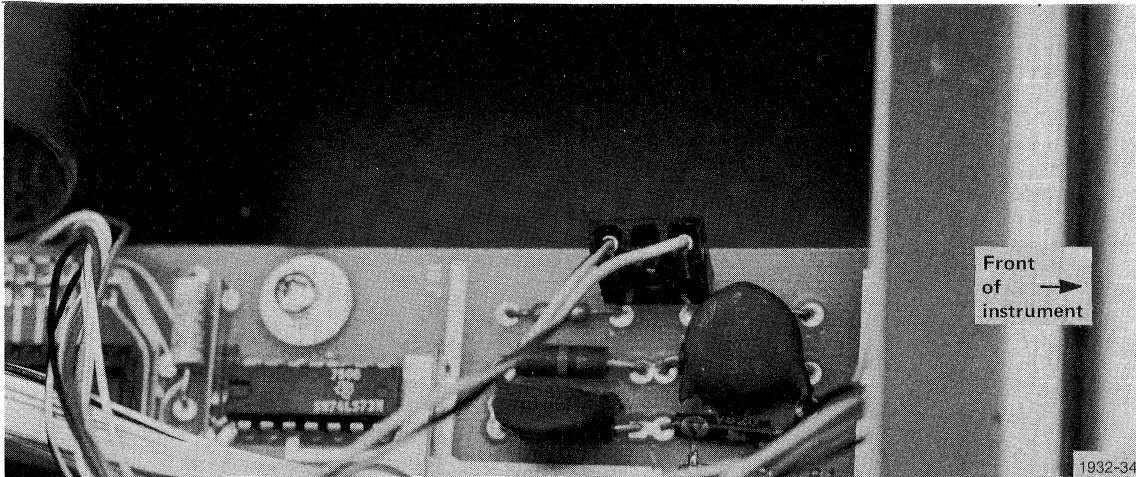

Fig. 4-4. Platen connector position.
3. Gently lift the platen and work it to the left of the Plotter (as you face it from the front). When the platen is approximately half removed, reach in and disconnect the platen connector from the Plotter board (Fig. 4-4). The platen may then be completely removed.